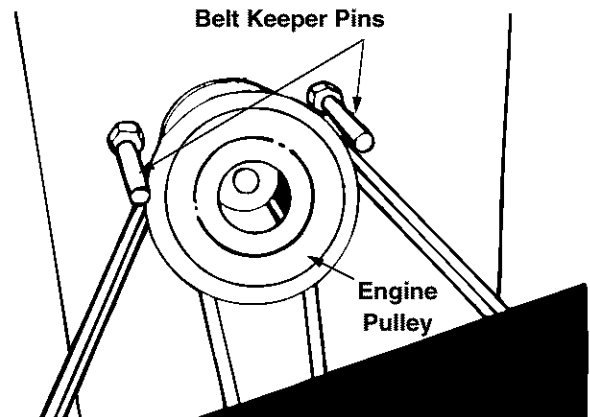

Figure 23
**NOTE:** Figures 23, 27 and 28 are shown with the unit tipped up for clarity. It is not necessary to tip the unit to remove the belts.
**NOTE:** When reassembling, make certain belt keeper pins are assembled in the same locations from which they were removed. See Figure 23.
- Remove the belt keeper pins from the lower frame. See Figure 23.
- Remove the belt keeper pins from the engine pulley belt guard. Refer to Figure 23.
**NOTE:** Make certain belt keeper pins are reassembled as shown in Figure 23.
**NOTE:** When reassembling, make certain belt is inside the belt keeper pins. See Figure 23.